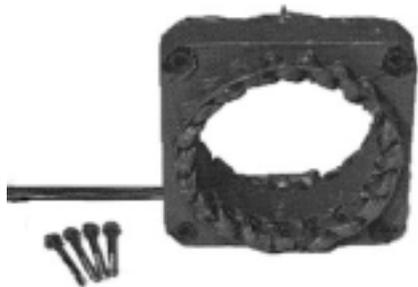

Figure 6-36
A. STATOR du PMG (Figure 6-36)